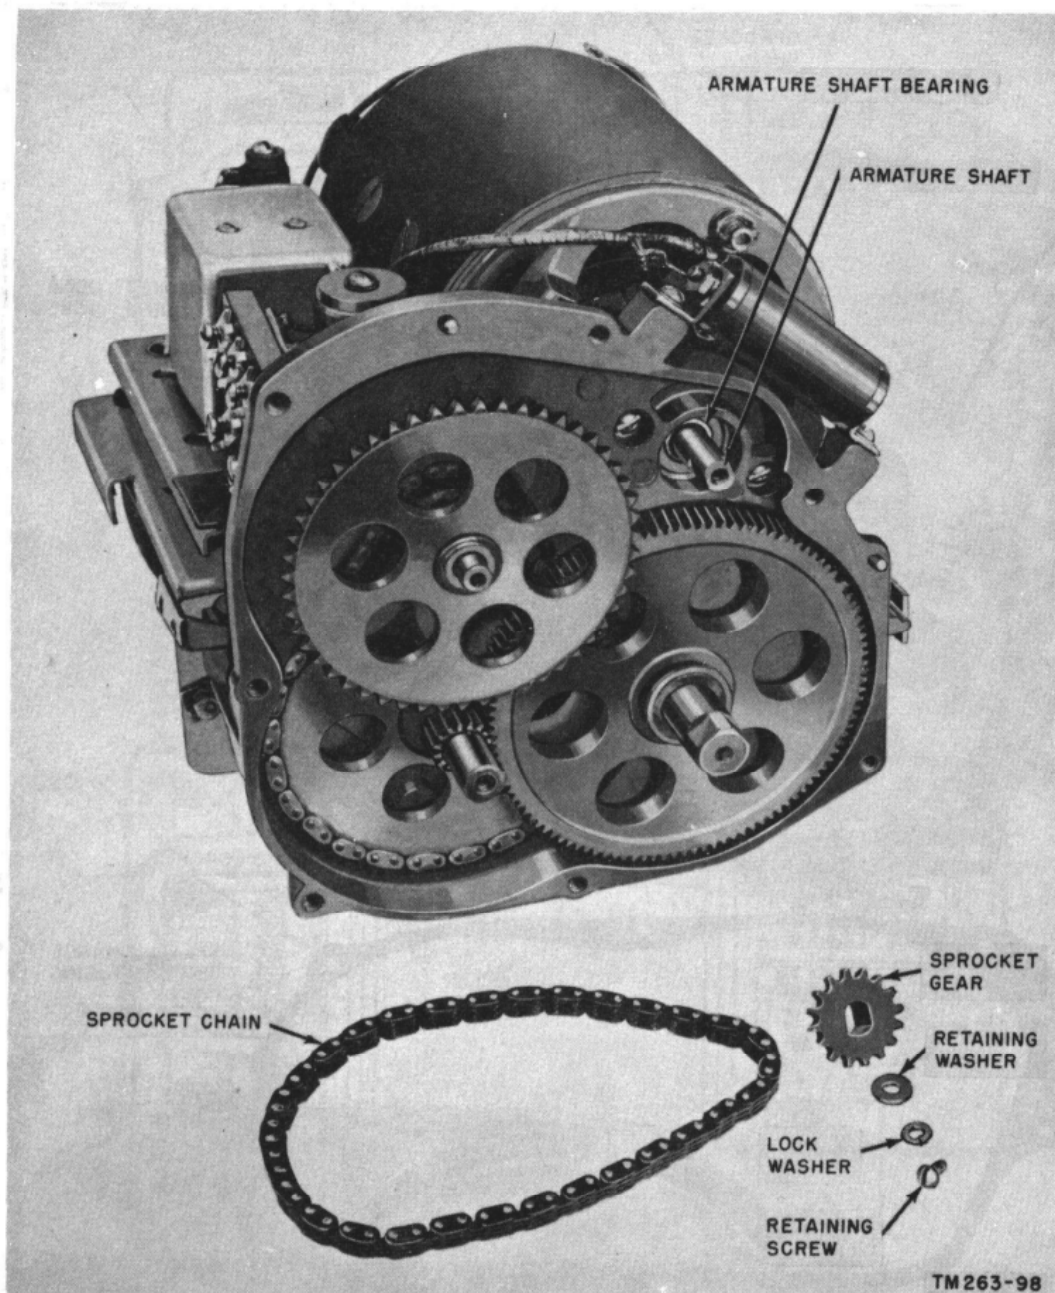

Figure 153. Sprocket gear and chain removed from Generator GN-58-(*).
- d. The sprocket gear is press-fitted to the shaft. Pry it off gently (fig. 153).